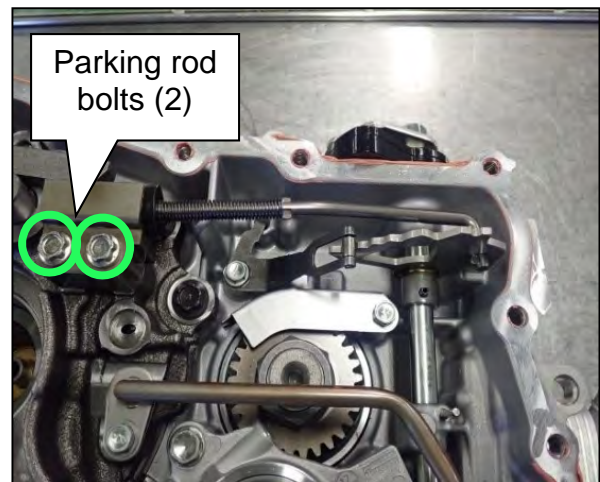

Figure 76
- b. Remove the two (2) parking rod bolts (Figure 76).